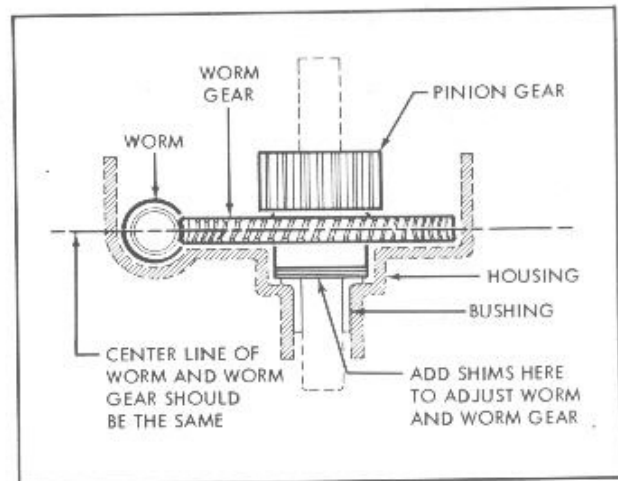
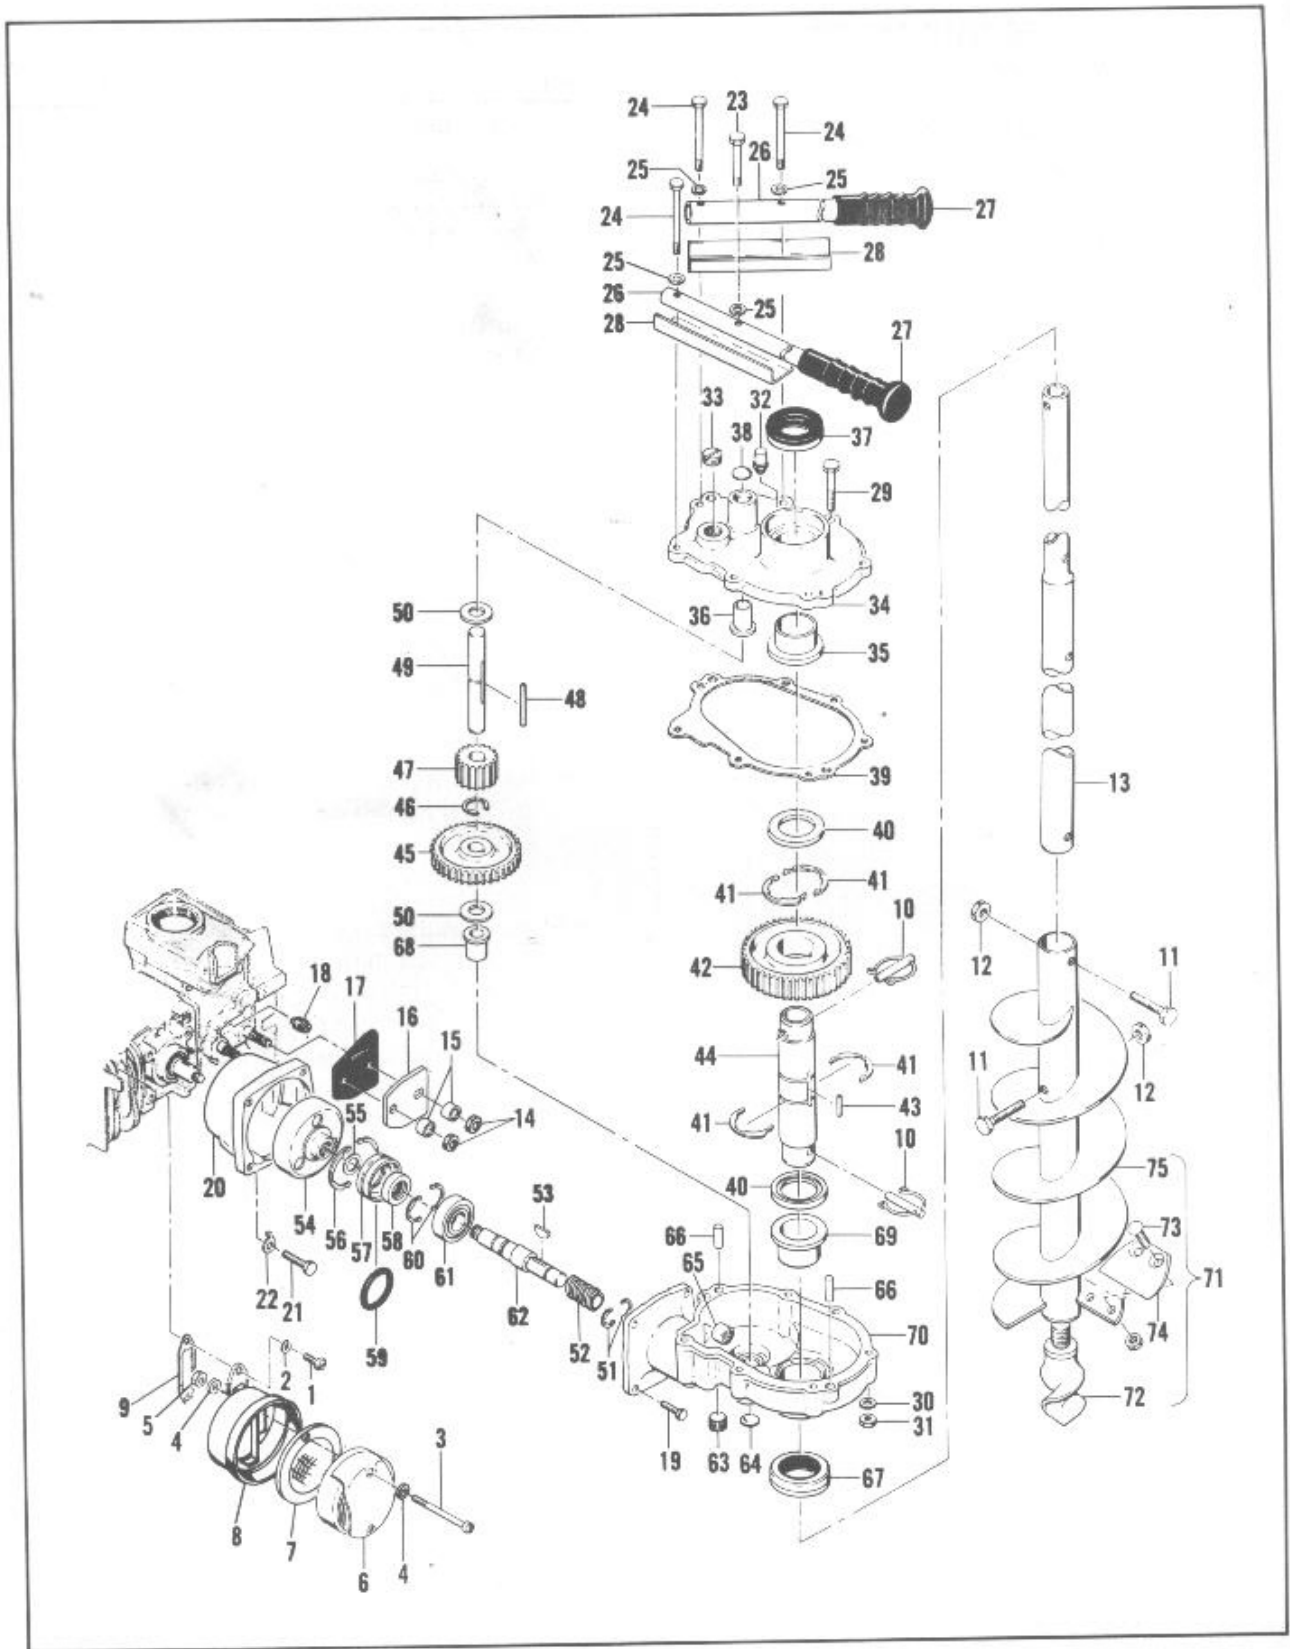

Figure 11. Gear Alignment
Figure 14. Earthdrill Attachment and Auger Assemblies
Six and nine-inch diameter augers are available from your McCulloch Dealer. Repair parts for the earth drill and the augers are shown in figure 14. The augers can be mounted close to the gear housing when drilling shallower holes or in an extended position for digging deeper ones.
After each 500 hours of operation, remove the gear housing cover and lift the output shaft out of the gear housing. Check the position of the worm gear in relation to the worm. They should mesh as shown in figure 11. If they do not, raise or lower the worm gear by adding or removing shims (item 50, figure 14) between the worm gear and the bushing in the bottom of the gear housing.